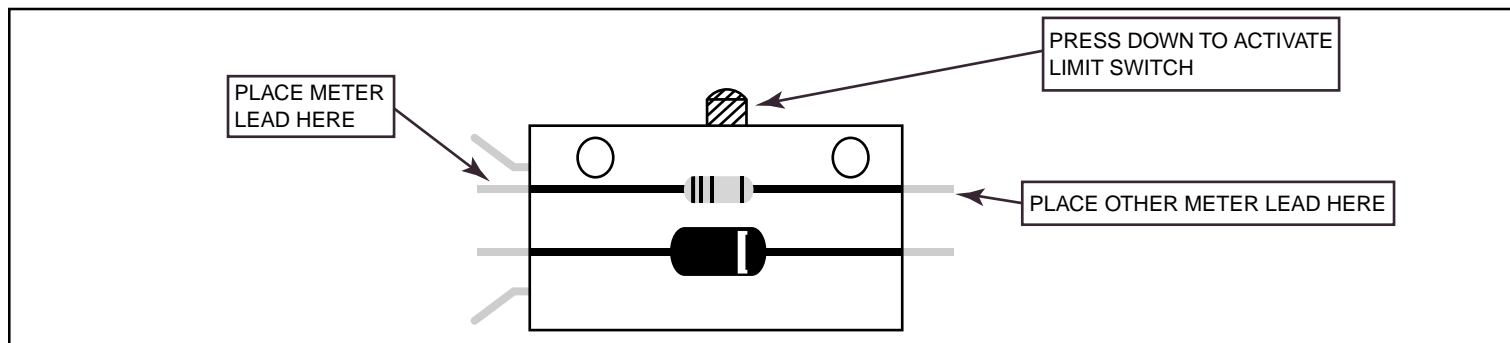
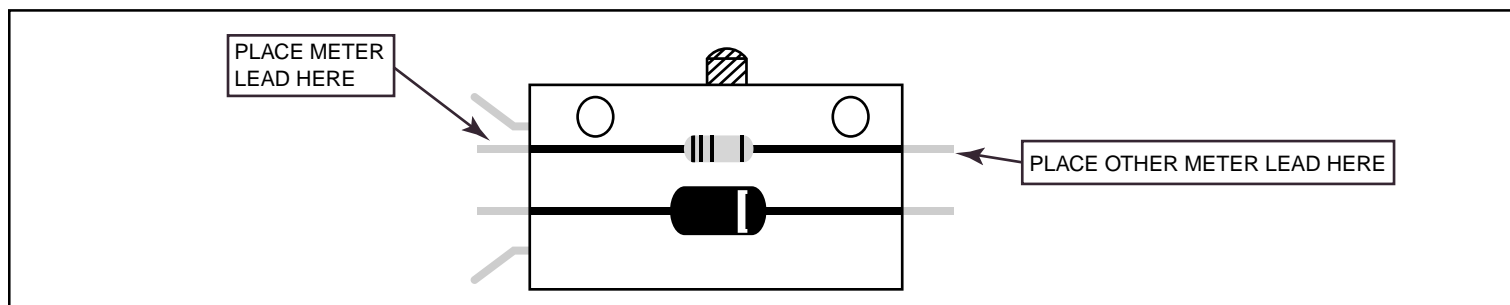

Figure 4.61. Limit Switch (activated)
Figure 4.62. Limit Switch (not activated)
3. Check if the limit switch brackets are correctly positioned and both limit switches by the front strut are fully depressed. If the reading is still outside tolerance, fully tilt the system back and move to the limit switch with the resistor on it. Set the meter to measure resistance. You will need to be on a setting higher than 10k ohms for this switch. Place the red lead of the meter to the tab of the switch where the white wire is attached and the black lead of the meter to the tab where the yellow wire is attached. Depress the button on the top of the limit switch to activate it, the meter should indicate a short. See figure 4.61. With the switch not activated, the reading should be 10k ohms. See figure 4.62.